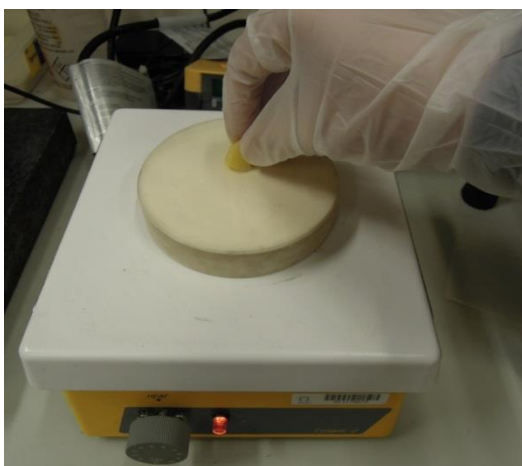

Fig. 3
- 4) Melting enough wax on the ceramic holder, as shown in Fig. 3.